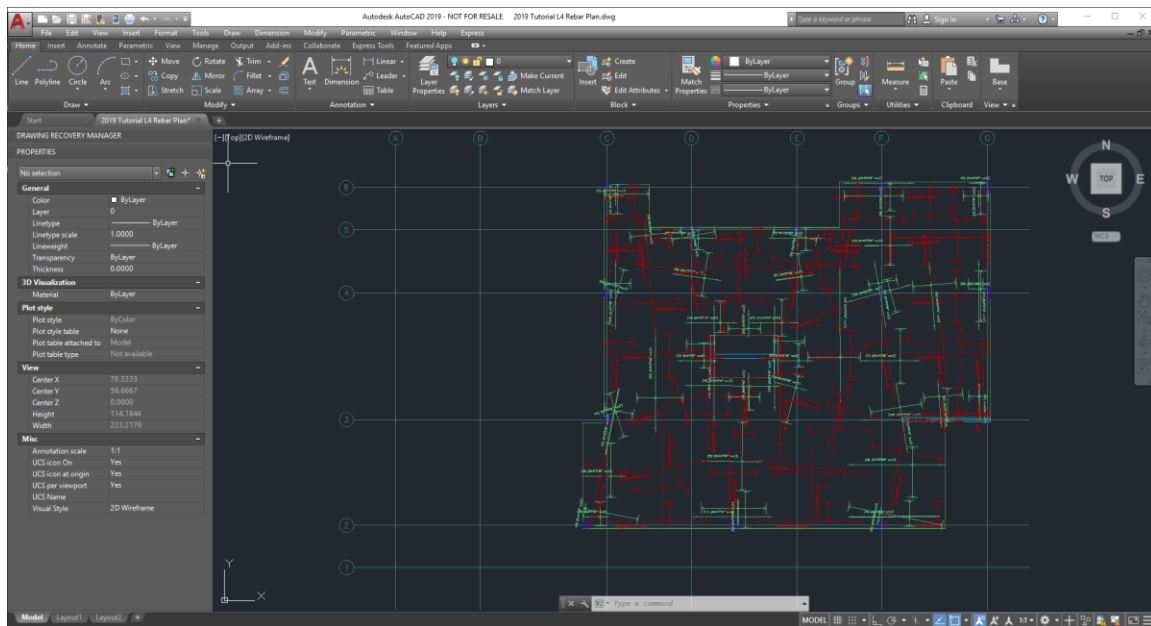

Figure 10-41
- Opening the drawing the user should have a CAD file that looks similar to the CAD file shown in **FIGURE 10-41**.